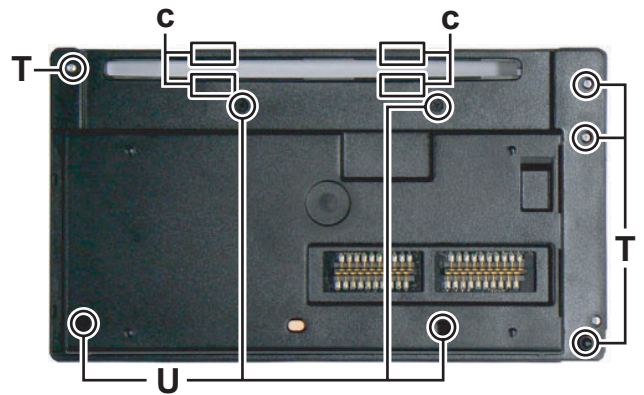

Fig.17
3.1.10 Removing the Rear cover (See Fig.17)